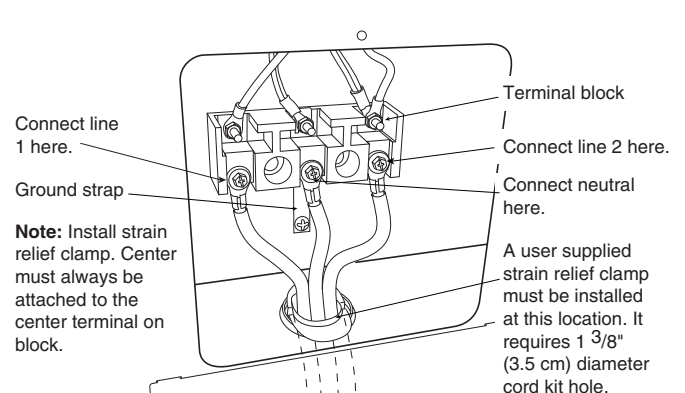

Figure 10
For existing installations ONLY, refer to Figure 10.
- 1 Follow the power supply cord kit manufacturer's Installation Instructions and install the strain relief clamp. See Figure 10.
- 2 Connect the end connectors for line 1, line 2 and neutral and tighten securely to the terminal block. See Figure 10.
center, lowest screw. See Figure 10. The ground strap must not be removed unless National, State or Local Codes do not permit use of a ground strap.